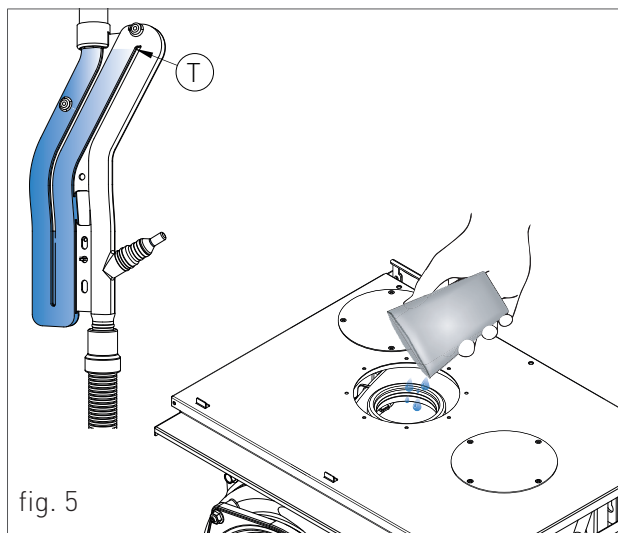

fig. 5
Fill the condensate collection siphon as follows (see fig. 5):
- › With a glass pour the water in the heat exchanger's flue exhaust duct outlet (see fig. 5), up to fill the condensate trap to the highest point "T" (fig. 5);